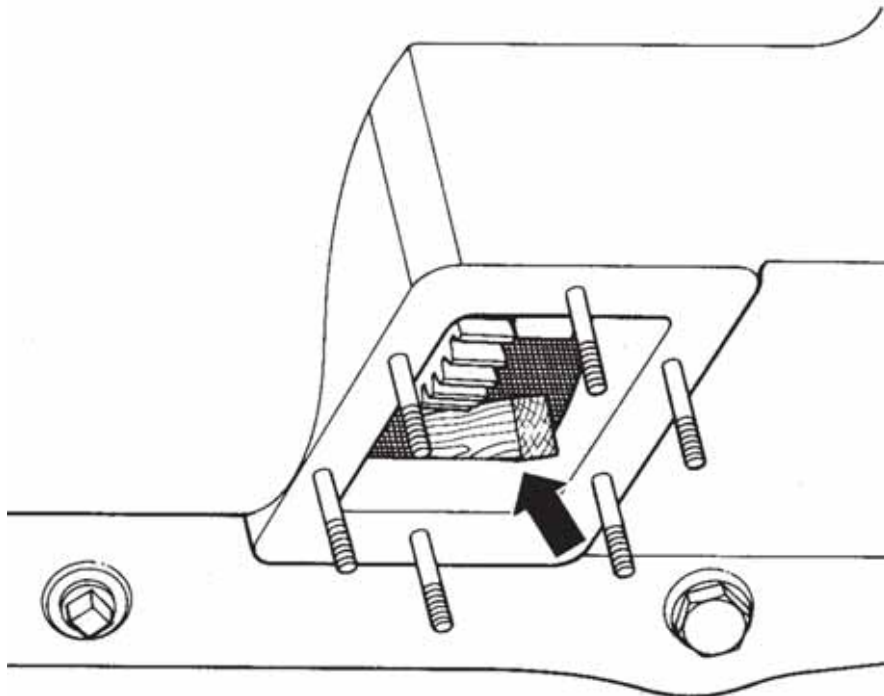

Figure 6 Wedge Location
- a. Insert a wooden wedge (Figure 6) between the transmission PTO drive gear and the transmission housing.